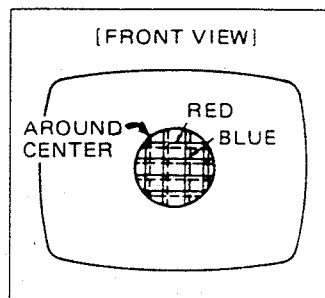

Fig. 7
3. Rotate the front pair of tabs as a unit to minimize the separation of the red and blue lines around the center of the screen. Variation of the angle between the tabs adjust the convergence of red and blue. (Fig. 7)